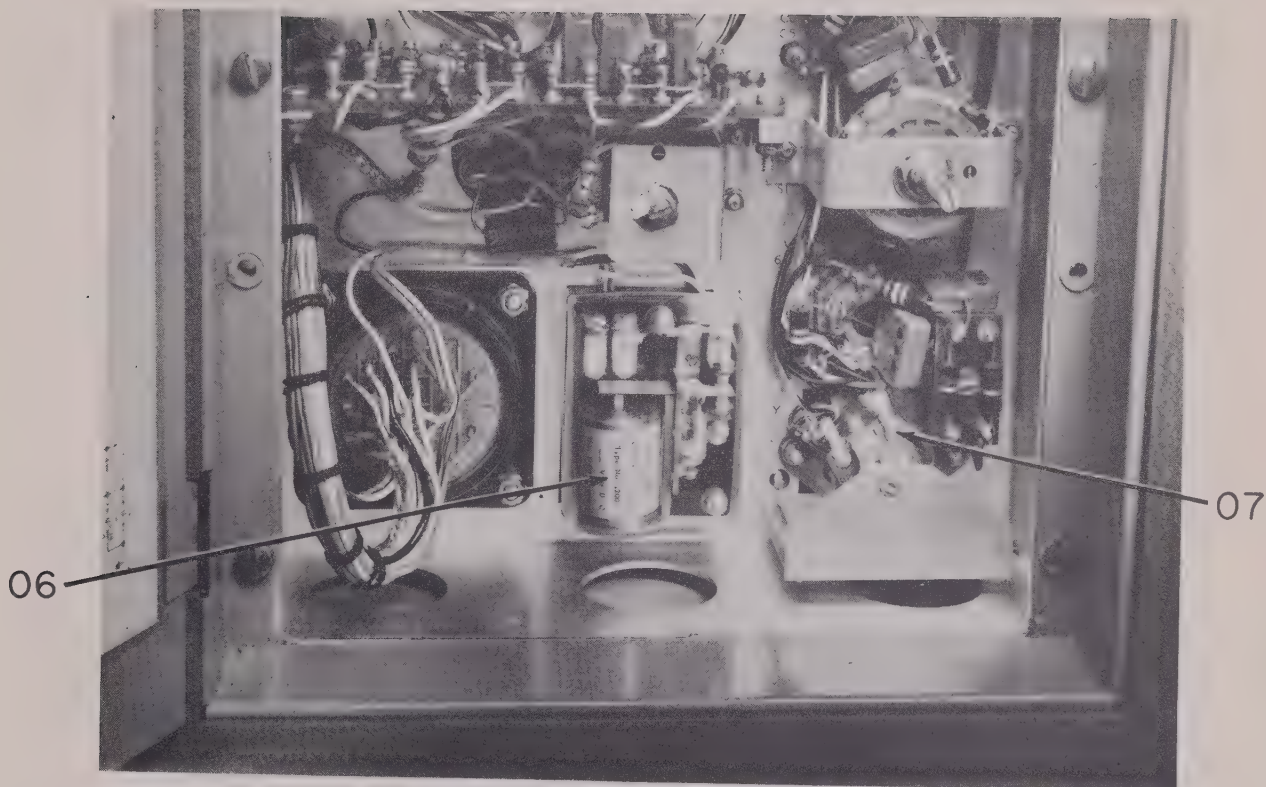

Figure 35. Radio Transmitter Model 96D, location of keying and crystal shift relays. (Optional items).
(3) As shown in Figure 35, when keying relay 06 is supplied, it will be located within the exciter unit chassis, adjacent to receptacle J-2.
A crystal shift relay, 07 (fig. 91), when supplied as a part of the Model 96D transmitter, is installed under the oscillator shield can in the exciter unit. This relay is located within the exciter unit chassis at the lower right corner. See Figure 35 for the placement of this relay. One set of contacts connects either of two crystals into the circuit. The crystal connected between pins 2 and 3 of the dual crystal holder is connected into the circuit when the relay is not operated. When the relay is operated the crystal connected between pins 1 and 3 is connected into the circuit.